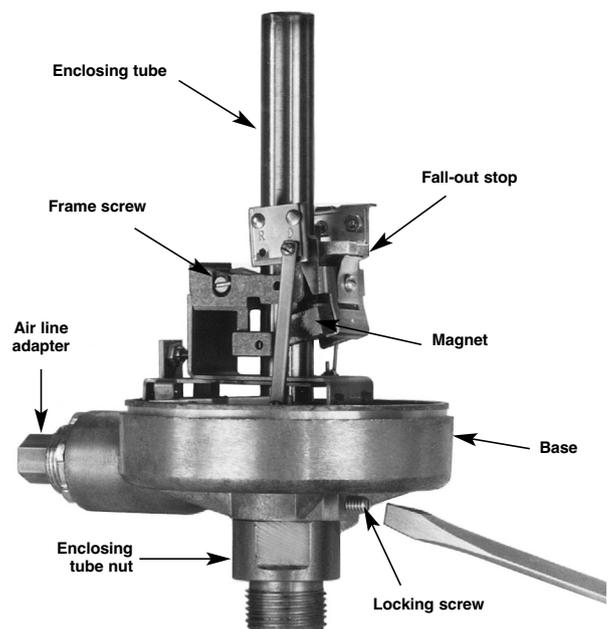

Figure 5
1. Loosen both the locking screw above the enclosing tube nut and the frame screw. Refer to Figure 5.
2. Loosen both the locking screw above the enclosing tube nut, and the frame screw approximately 3 to 4 turns. Refer to Figure 5.
- a. Hold the magnet against the fall out stop. Refer to Figure 5.